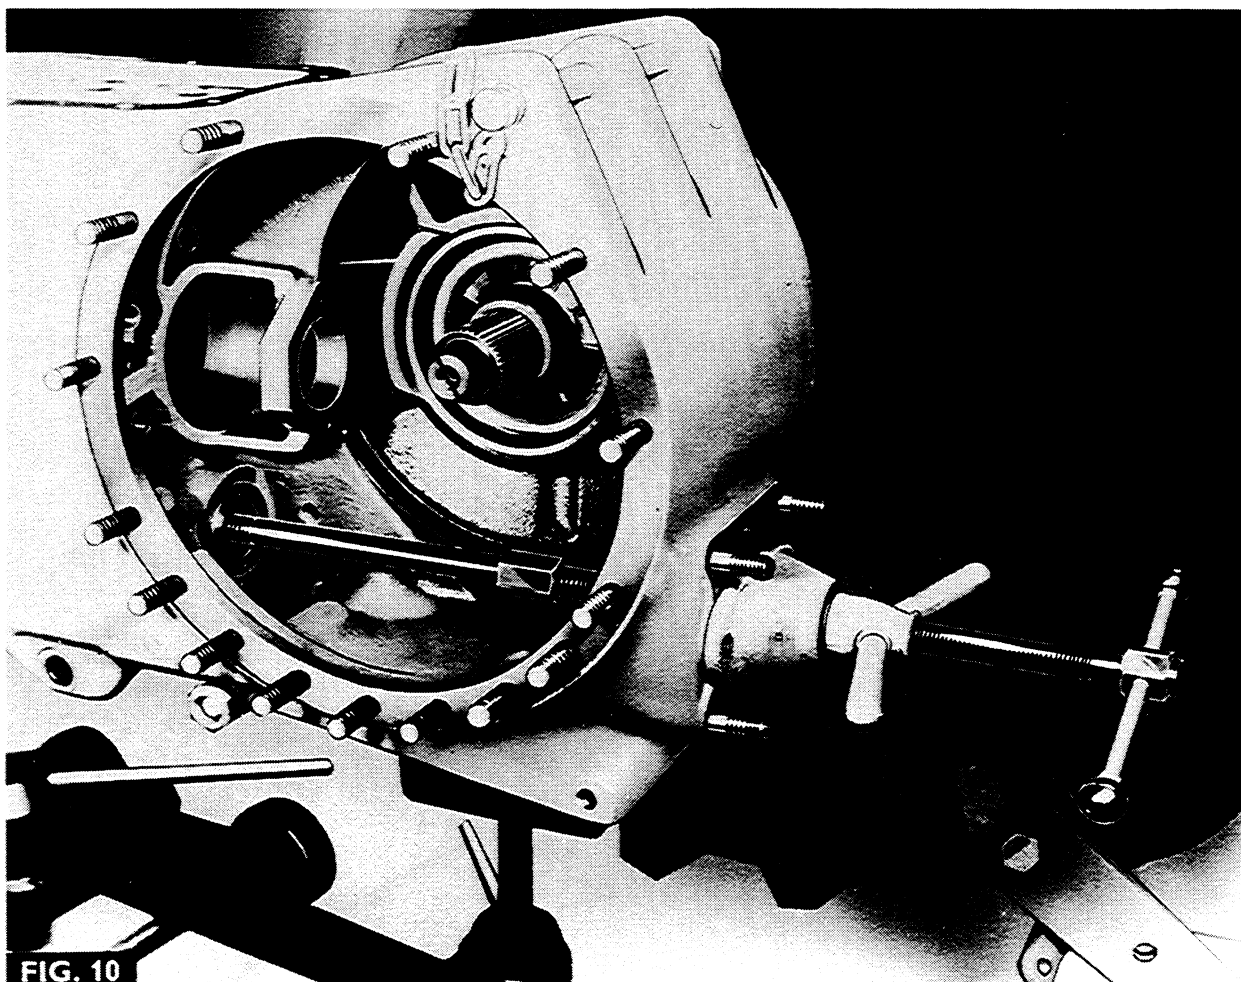

FIG. 10
3. Screw the tool bar portion MF 195-5/2 into the adapter MF 195-4/1 from the rear and pull the bush into the centre housing using puller MF 195 as shown in Fig. 10.